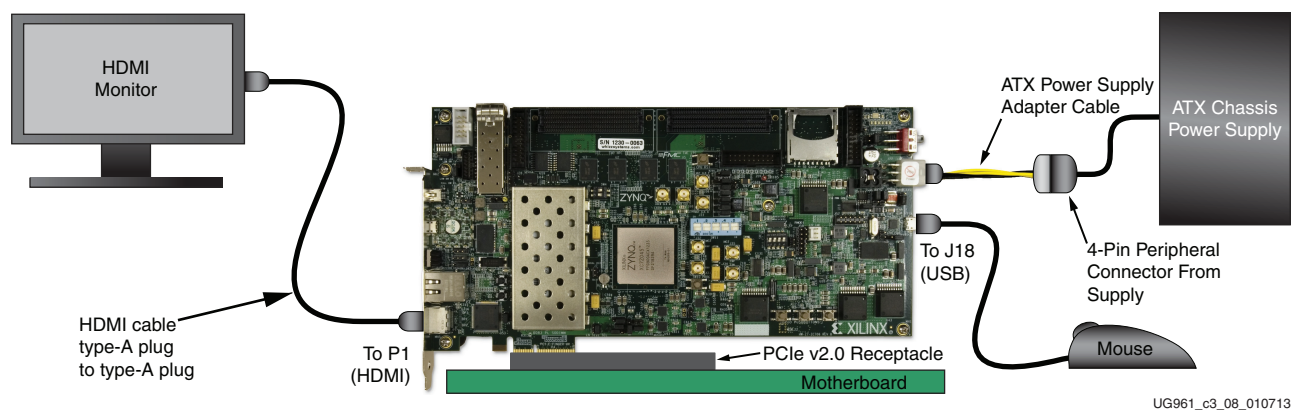

Figure 3-8: ZC706 Board TRD Setup in Host Computer
- Connect the ATX power supply to the ZC706 board using the ATX power supply adapter cable as shown in Figure 3-8.
- Connect one end of the HDMI cable to the ZC706 HDMI slot (P1) and the other end to the HDMI monitor (Figure 3-8).